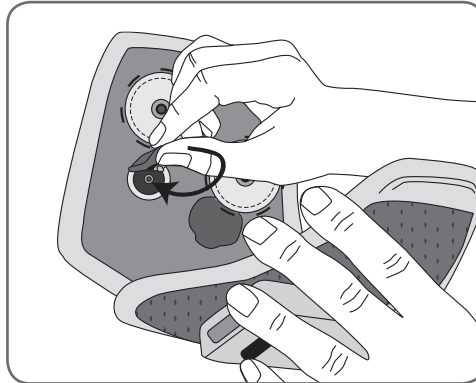

Figure 8-25: Snapping the L300 cloth electrode bases to the L300 FS Cuff plug holes.
6. Snap the L300 cloth electrode bases to the plug holes of the L300 FS Cuff. See Figure 8-25.